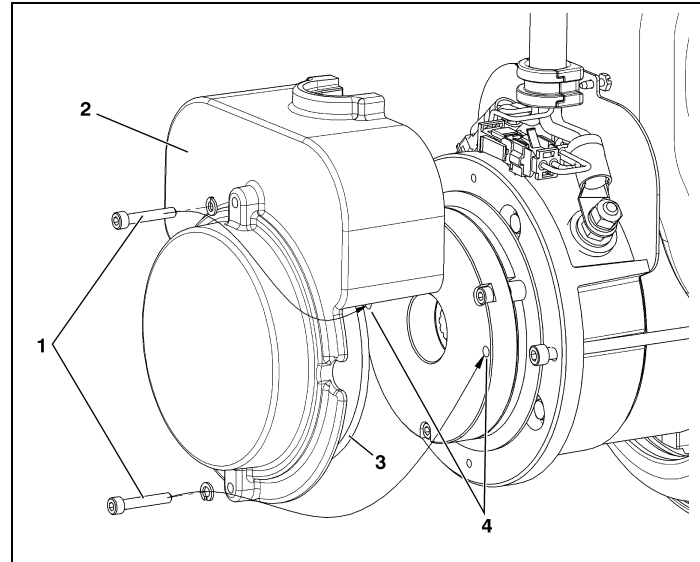

Figure 4-18. Brake - Manual Disengage.
(See Figure 4-18.)
3. Remove the **two cover bolts (1), cover (2), and cover o-ring seal (3)** from the back of drive motor unit.
4. Insert the cover bolts into the **two disengage holes in the brake housing (4)**, see Item 4 in Figure 4-18., Brake - Manual Disengage.